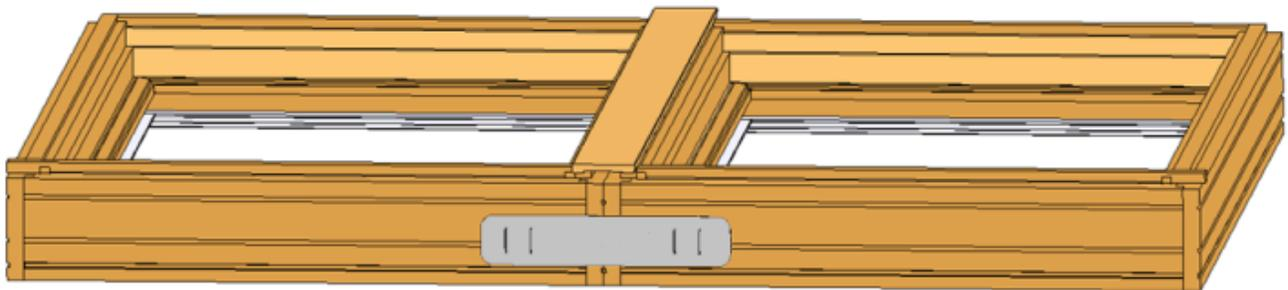

Figure 5
I. Apply gusset plates to mull joints using two 1/2", 16 gauge staples per side (figure 5).